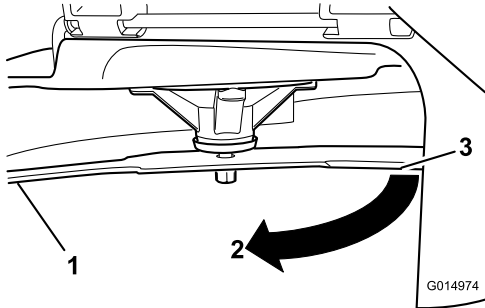

Figure 63
3. Second measured distance between blade and surface (B)
4. Rotate the same blade 180 degrees so that the opposing cutting edge is now in the same position (Figure 63).